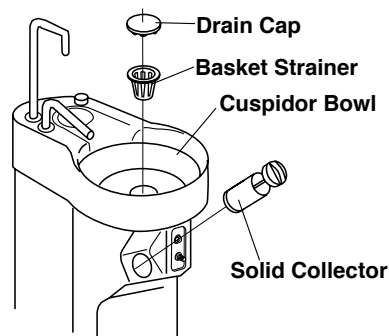

Fig.6-1 Basket Strainer and Solid Collector
### (2) Basket Strainer (Fig.6-1)
### (3) Solid Collector (Fig.6-1)